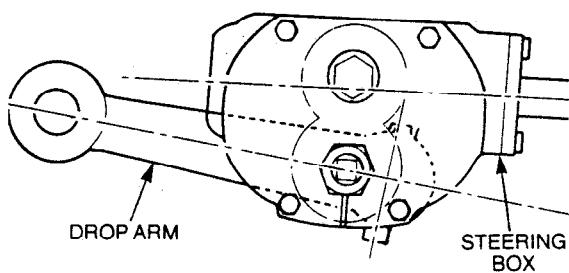

Figure 5 - Drop Arm Alignment
- c. With the sector shaft in the straight ahead position, fit the drop arm, align the master drive spline and check the position of the arm to the housing, as shown in Figure 5.
- i. With the sector shaft in the straight ahead position, check that the alignment of the drop is correct as shown in Figure 5, and that the lower seal is serviceable.